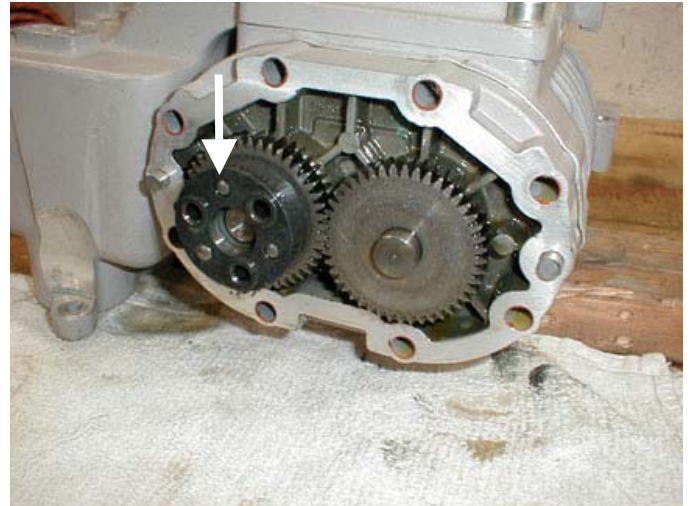
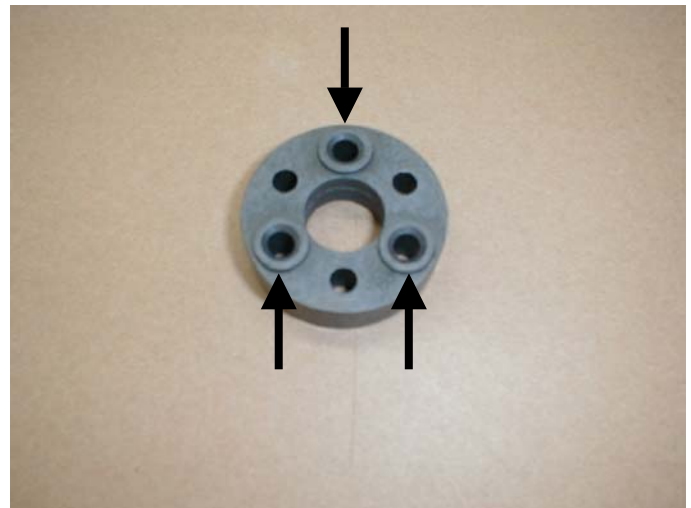

Figure 10
Figure 11
4. Remove the Phenolic block from the supercharger gear by pulling it straight off of the attachment pins (Figure 10).
CAUTION: Insert the attachment pins only into the holes with flanged openings (Arrows, Figure 11). These flanges must touch the surface of the drive gear (refer to Figure 10).
9. Align the nose drive gear pins (Figure 12) to the holes with flanged openings on the Phenolic block (refer to Figure 11) and press the block into position (Figure 13).